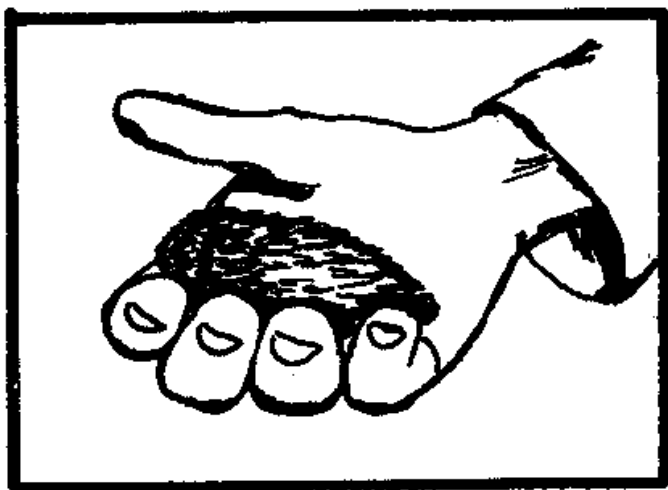

Fig. 7 - Determining
40. Testing for the Correct Amount of Moisture. The correct amount of moisture is quickly learned through experience. To test it, squeeze a handful of the mixture. (See Fig. 7.)